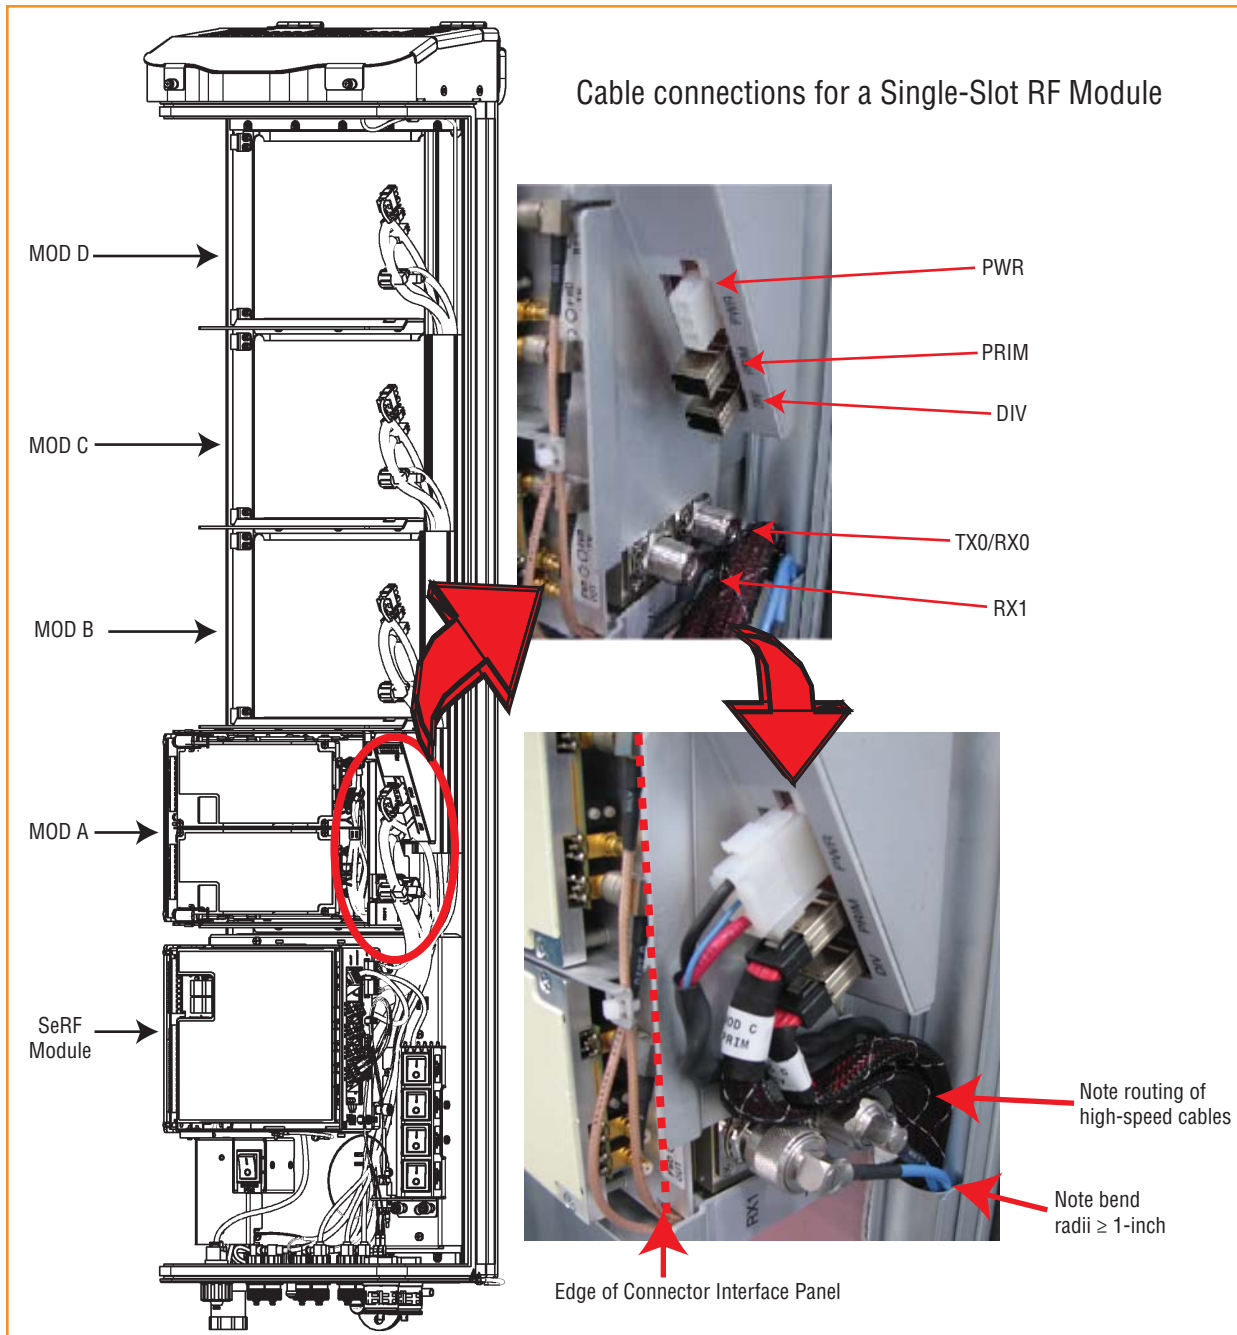

Figure 21. Cable Connections for Single-Slot RF Modules
- Single-Slot RF Module: Figure 21 on Page 38